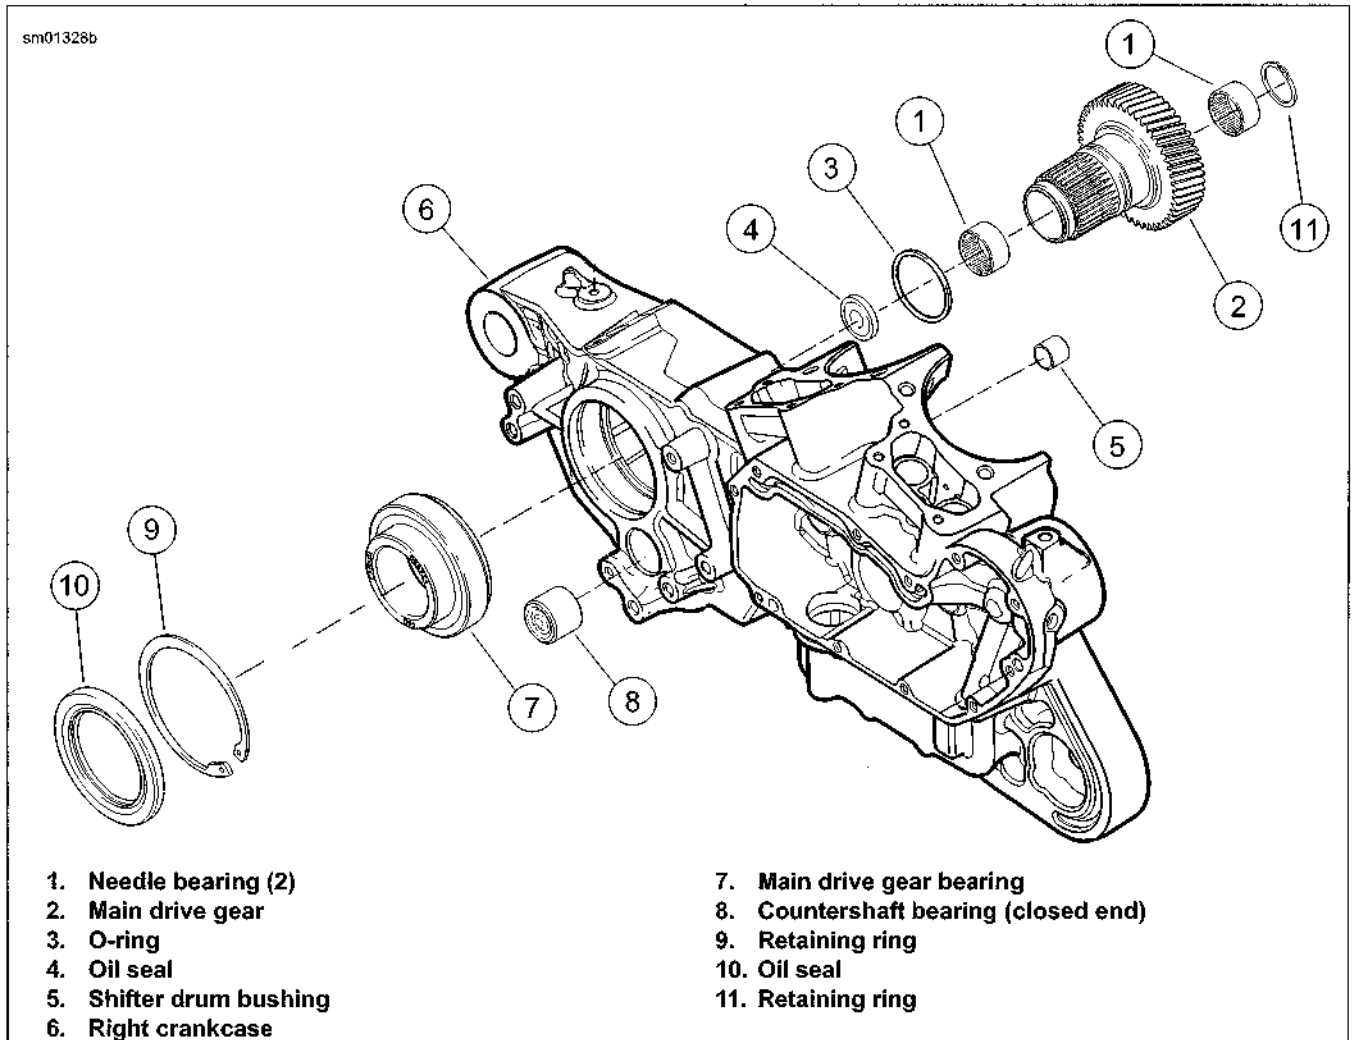
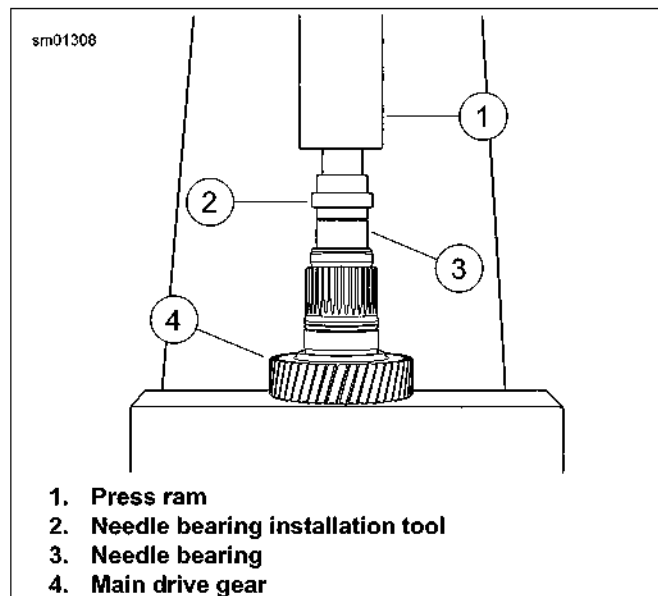

Figure 5-41. Main Drive Gear and Bearing Assembly
Figure 5-48. Pressing Outer Needle Bearing Assembly into Main Drive Gear
See Figure 5-41. Main drive gear (2) removal requires replacement of main drive gear bearing (7). Gear removal procedure destroys inner race.
1. See Figure 5-41. Remove and discard oil seal (10). Remove and discard main drive gear bearing retaining ring (9).
1. See Figure 5-41. Remove retaining ring (11) from inboard end of main drive gear (2). Discard retaining ring.
- See Figure 5-48. Place main drive gear (4) on press bed with gear end facing down.
- Place needle bearing (3) squarely into end of drive gear with lettered side of bearing facing up. Always press on lettered side of bearing to install. Insert installation tool (2) with end stamped "OUTER" facing needle bearing.
- See Figure 5-41. Install new retaining ring (11) in inboard end of main drive gear (2).